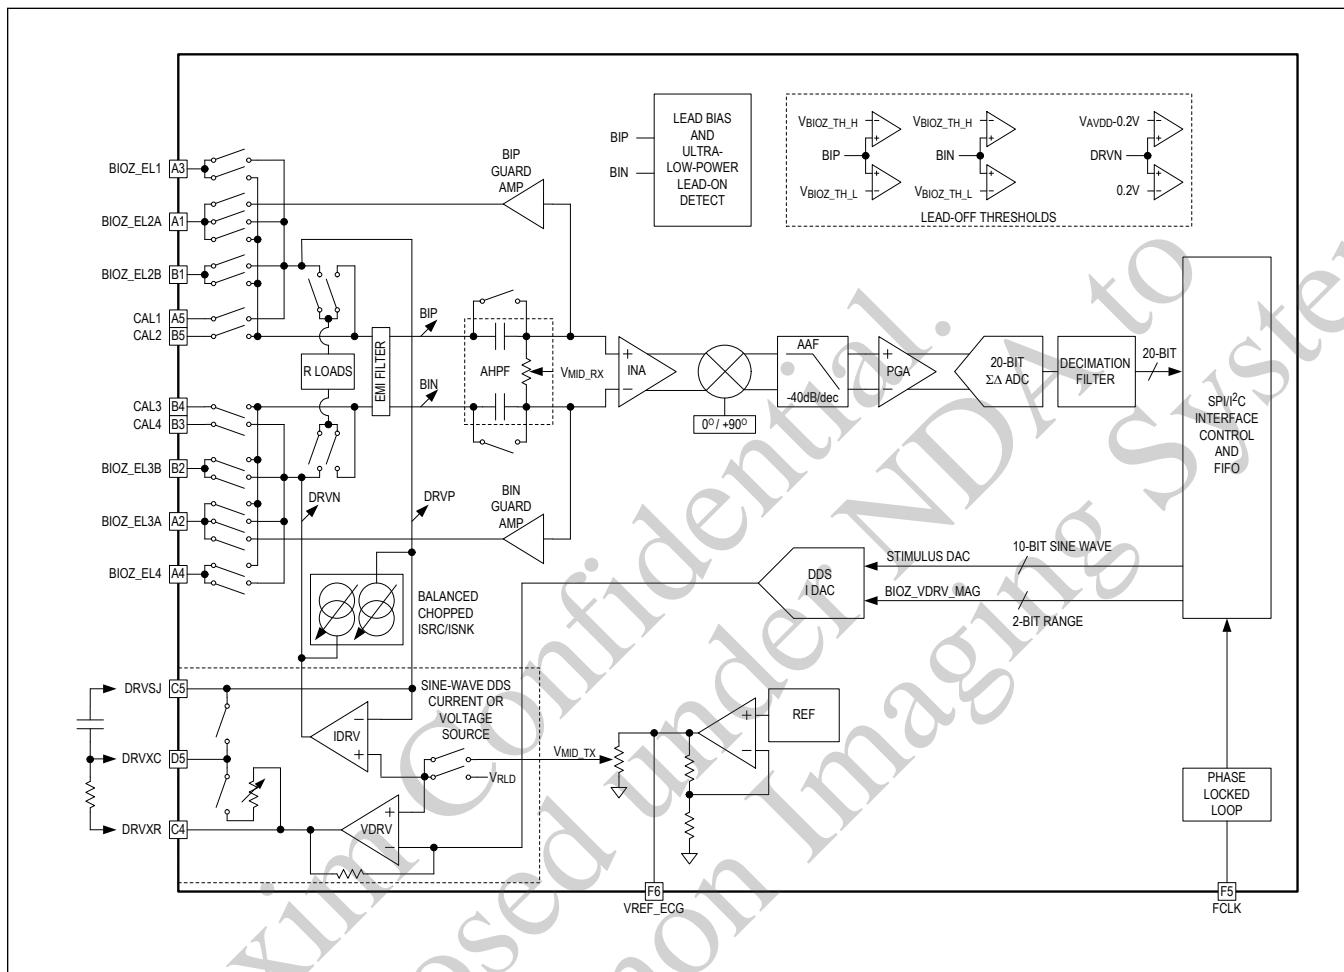

Figure 36. BioZ System Block Diagram
The BioZ system shown in Figure 36 primarily consists of a transmit (TX) channel, a receive (RX) channel, and an input/output MUX. The BioZ system supports calibration using internal or external calibration resistors, enabling 0.1% accuracy in the I/Q channel. The flexible I/O MUX, lead-on and lead-off detection, adjustable amplifier bias, and lead bias allow for flexible hardware designs capable of multiple measurement types with low power consumption. The stimulus frequency and sample rate are determined by the timing subsystem (see the Timing Subsystem section).